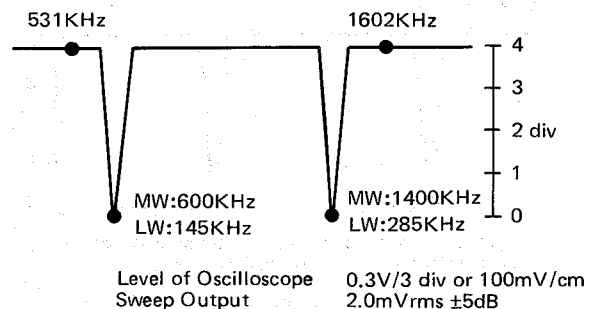

Fig. 23
3. Adjust L1105 to obtain maximum output at **600kHz** marker as in Fig. 23.
5. Adjust C1111 of trimmer to maximum output at **1400kHz** marker as in Fig. 23
11. Repeat step 7 – 10 several times to obtain the maximum amplitude at both **600kHz** and **1400kHz** marker as in Fig. 23.
3. Adjust L1104 to obtain maximum output at **145kHz** marker as in Fig. 23.
5. Adjust C1110 of trimmer to maximum output at **285kHz** marker as in Fig. 23.
11. Repeat step 7 – 10 several time to obtain the maximum amplitude at both **145kHz** and **285kHz** marker as in Fig. 23.